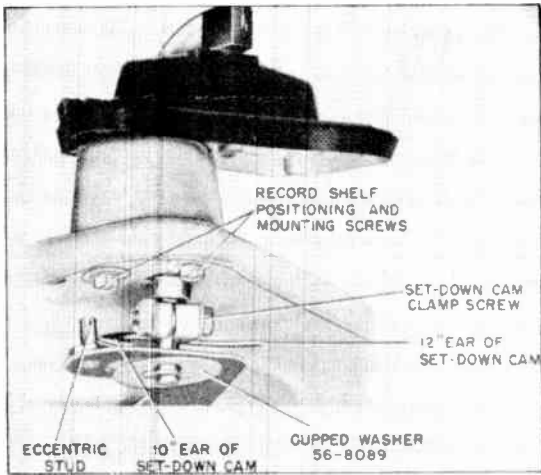

Figure P10.
1. Index 7" Record Adjustment: (a) set record shelf to 12" position; (b) set eccentric stud (figure P10) clockwise to move tone arm in towards spindle; (c) adjust eccentric stud (figure P10) counterclockwise to move tone arm away from spindle.
SERVICE HINTS (Figures P10 through P15)